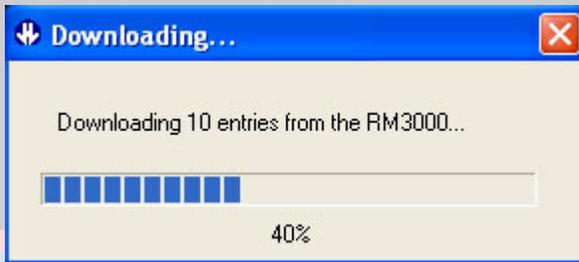

FIGURE 3
**Download** – this will download any readings which have been stored to the internal memory of the RM3000. While downloading readings you will see an information window showing progress (Figure 3). This only takes a few seconds and it is necessary to wait until the process is complete, at which time there is an option to clear the stored results from the RM3000 memory.